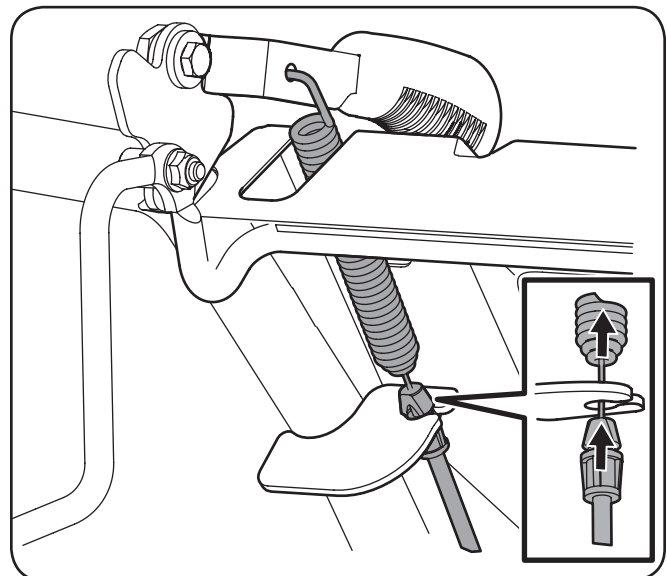

Figure 3-6
11. Route the neutral cable up the left handle and hook it into the neutral handle. See Figure 3-6.
NOTE: Be sure that the spring hook is routed from right to left as shown in Figure 3-6 or the spring will hit the lever.
12. When the cable is properly hooked into the handle, snap it into the cable mount bracket as shown in Figure 3-6.